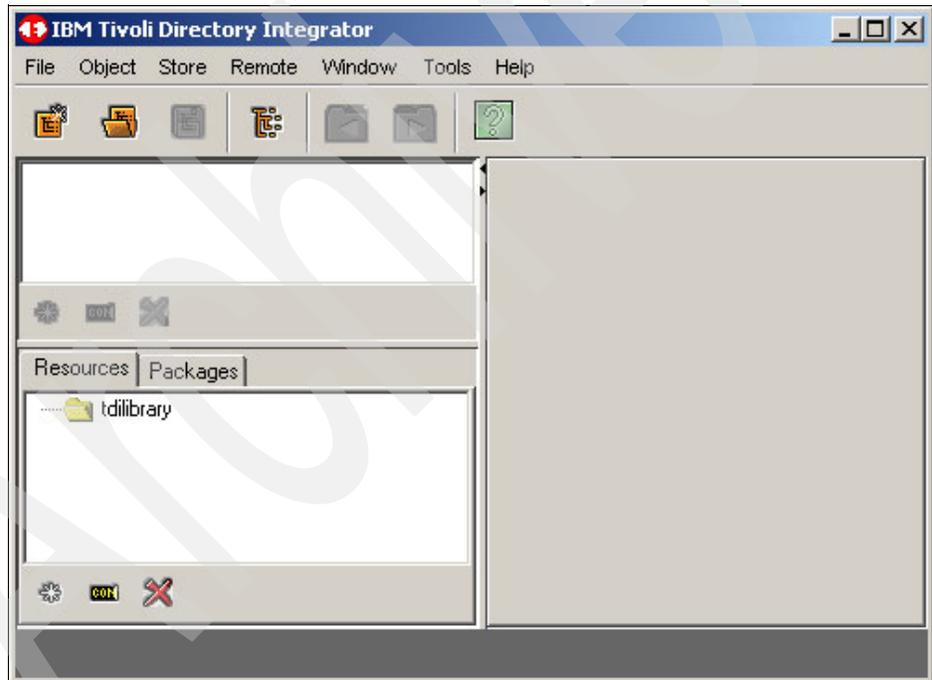

Figure 2-9 TDI user interface
3. To complete the post-installation check, launch the TDI as shown in Figure 2-8 by selecting **Start Config Editor**, as shown in Figure 2-9.